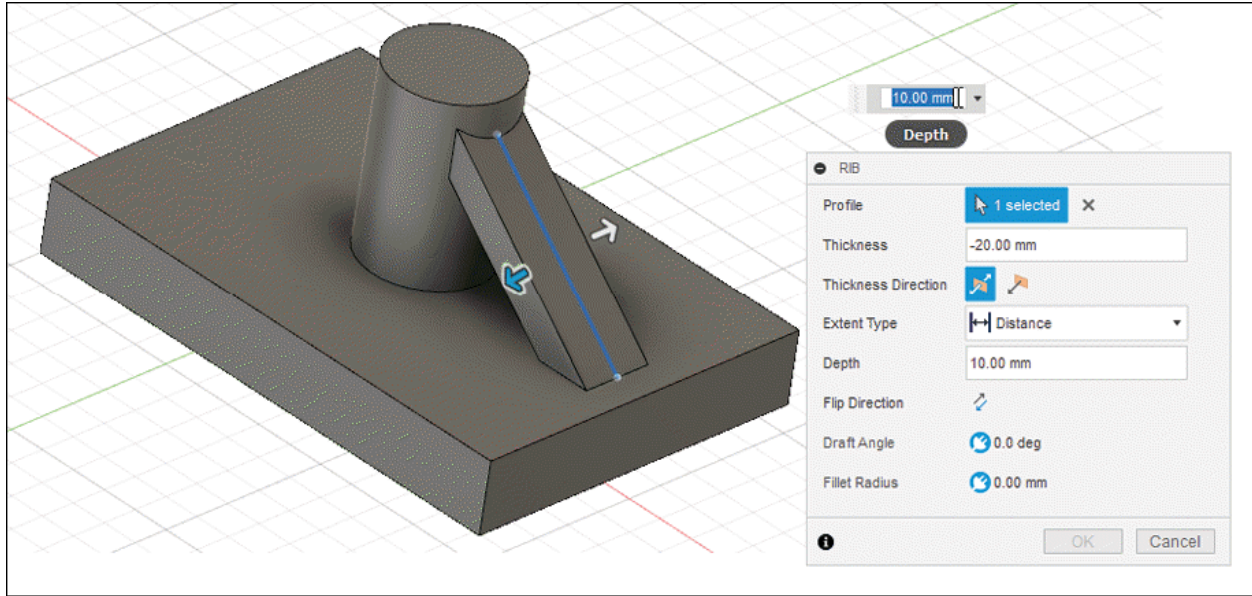

Figure-23. Depth tool in Rib
- You can also enter the value of depth in minus(-) to reverse the direction of depth in **Depth** edit box; refer to Figure-23.